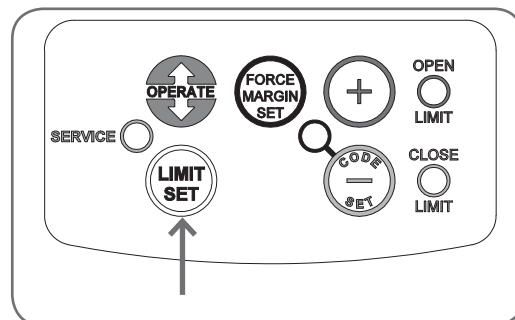

Fig.6.4.3
- Press and hold Limit set button for six (6) seconds (**Fig 6.4.3**) until you hear three beeps and the red Close Limit LED starts to flash.